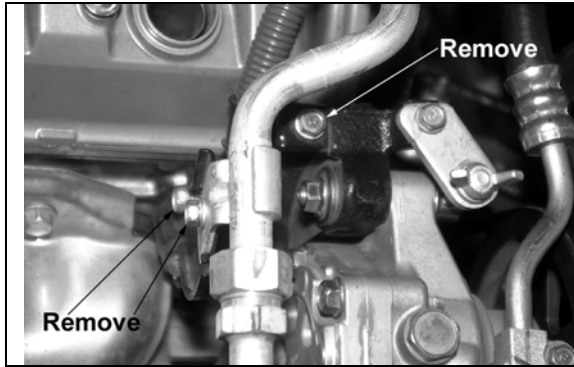

Fig. 4
- f) Remove the hardware for the A/C hard-line bracket and engine harness bracket. **(Fig. 4)**